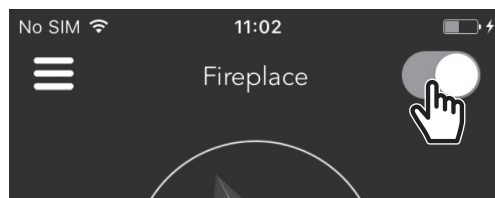

Fig. 7
8. Make sure that the top right corner icon is switched "ON" (Fig. 7)